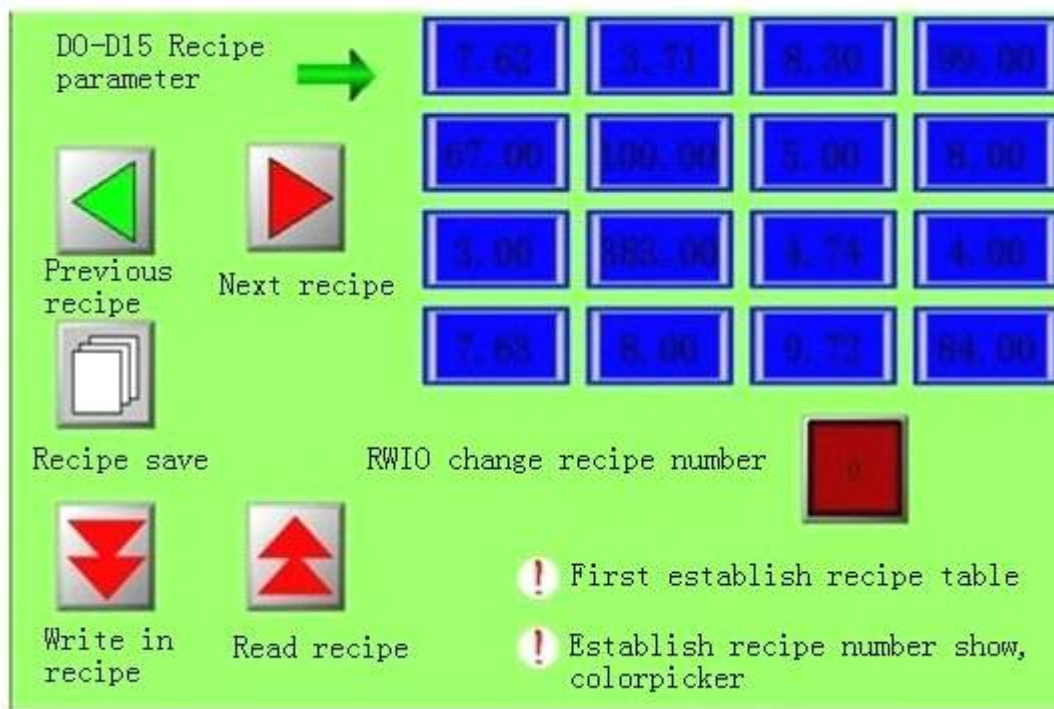

Figure 7-27 Recipe effect diagram
3. The screen shown in figure 7-27 can be finished as per above mentioned operations: